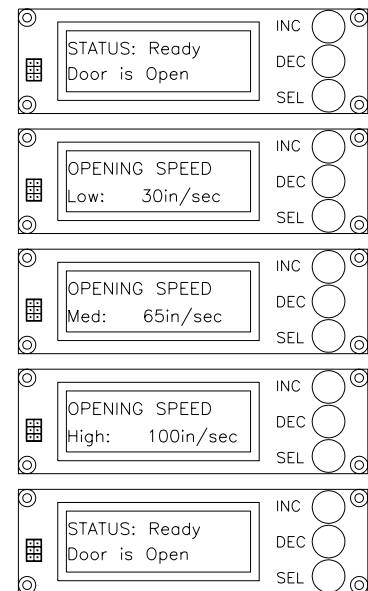

FIG. F5
- c. **Adjust OPENING SPEED** using the Display and 3 Buttons provided (Figure F5).